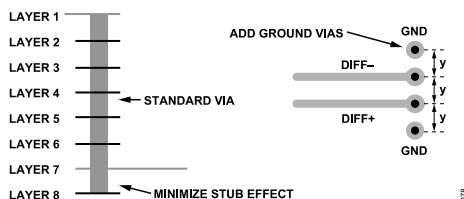

Figure 78. Minimizing Stub Effect and Adding Ground Vias for Differential Stripline Traces
- If using standard vias, use the maximum via length to minimize the stub size. For example, on an 8-layer board, use Layer 7 for the stripline pair (see Figure 78).
- For each via pair, place a pair of ground vias adjacent to them to minimize the impedance discontinuity (see Figure 78).